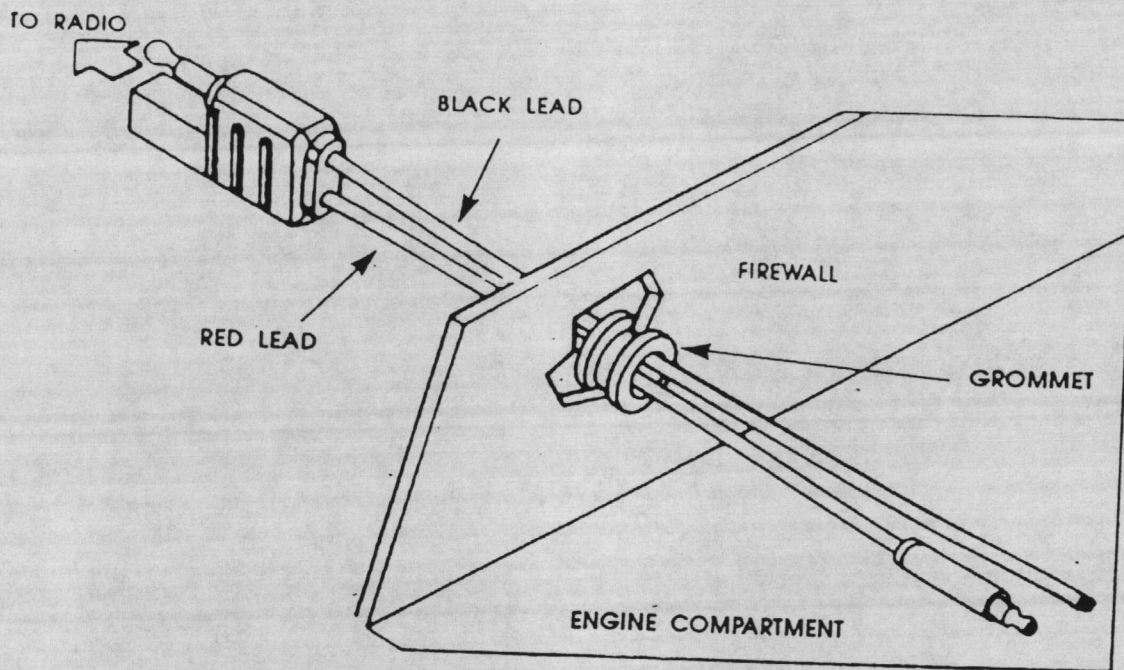

Figure 1. Power Cable Routing into Engine Compartment
- (1) Determine a routing plan for the power cable with reference to where the radio is to be mounted.
- (2) Locate an existing hole with a grommet in the vehicle fire wall, or drill a 3/8" access hole at the location for passing the power cable into the engine compartment. Install a grommet with 1/4" I.D. in the access hole to avoid damage to the cable.
- (3) From inside the vehicle, feed the red and black leads (without lugs attached) through the access hole and into the engine compartment. See Figure 1.
- (4) Locate the nearest available vehicle chassis ground mounting point and shorten the black lead to remove excess cable length.